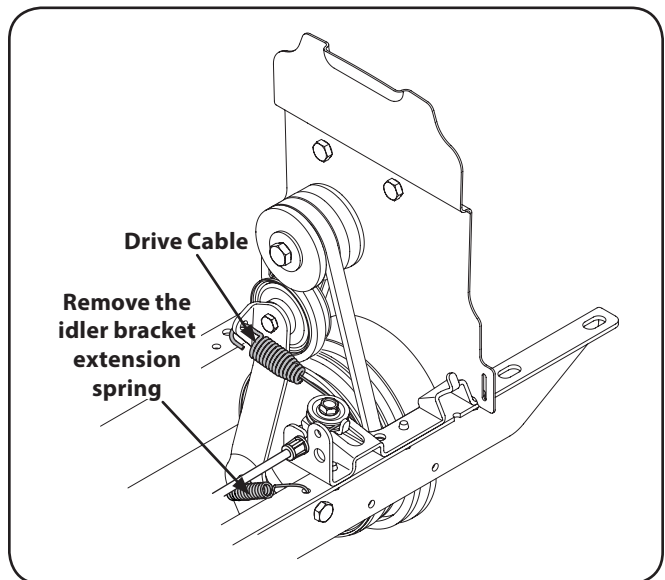

Figure 7-3
4. Remove the idler bracket extension spring from the idler bracket using a pair of needle-nosed pliers. Grab the spring by the end that hooks over the frame, pull it away from the frame, then up and carefully relieve the tension of the spring. See Figure 7-3.
5. Unhook the drive cable from the idler bracket. See Figure 7-3.